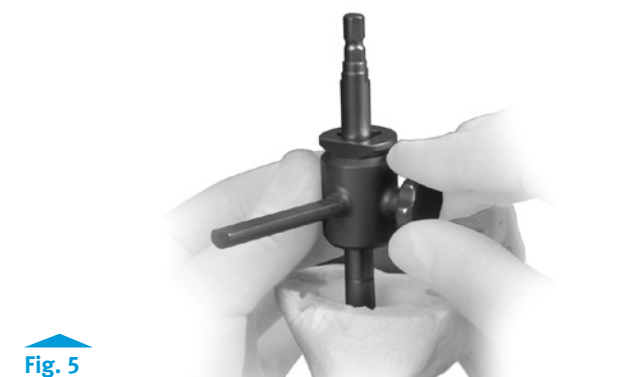

Fig. 5
- Attach the 0° Revision Tibial Boom to the reamer shaft (Fig. 5) or the Stem Extension Provisional assembly.